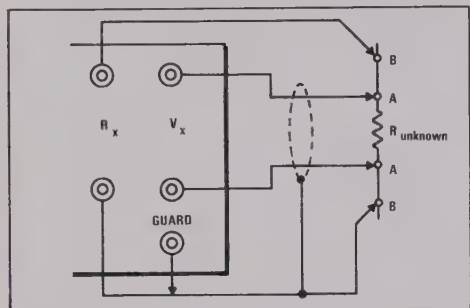

Figure 2-5. Four-Wire Resistance Measurement
2. Connect the V_x terminals to inner connection points, A, of the unknown resistor as shown in Figure 2-5.
3. Connect the current source and sink to the outer connection points, B, of the unknown resistor as shown in Figure 2-5.
4. Connect guard to the low side (current sink) of the circuit as shown in Figure 2-5.